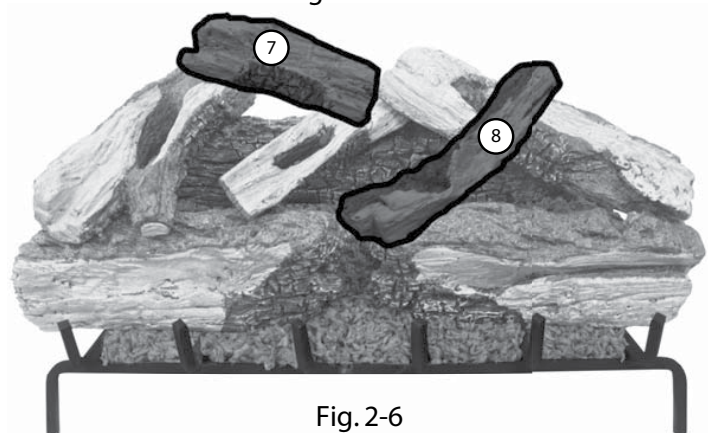

Fig. 2-6
6. Position the top left log #7 at a slight angle on top of logs #4 and #5 as shown. The charred end should rest downward. Complete log placement by positioning the top right log #8 at an angle on top of log #6, with the bottom end resting in between the charred section of logs #1 and #2. (Fig. 2-6.)